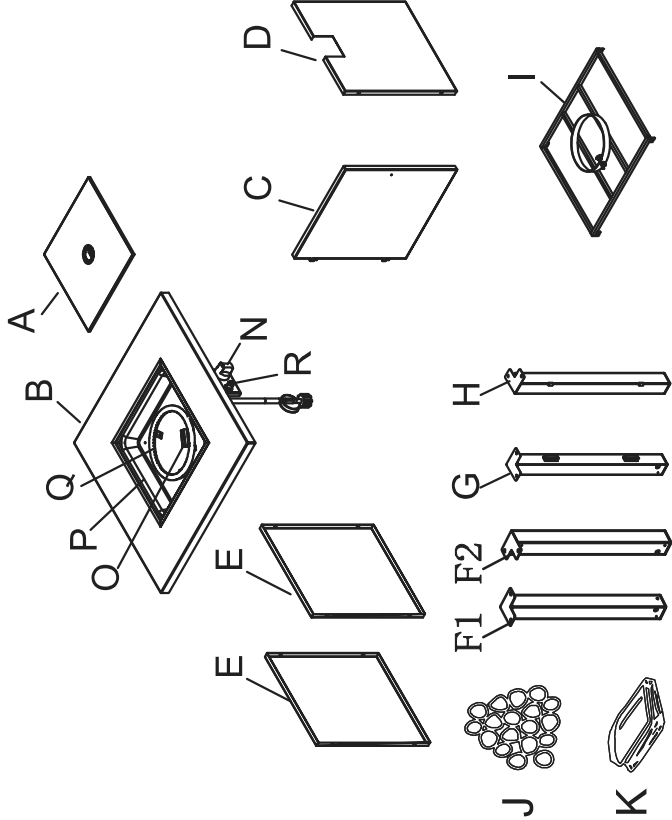

Figure 1
- 1) Check each part before using the product. Make sure that the gas supply system is turned "OFF" before assembling. **See Figure 1**